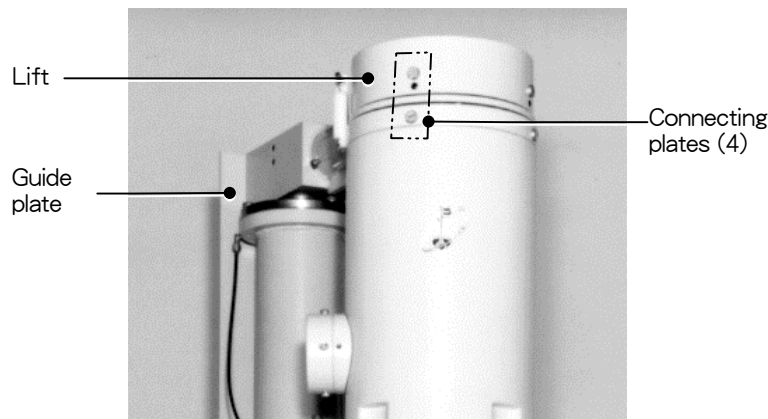

Fig. 6.4 Connecting plates attached to the lift
3. If there are connecting plates attached to the lift, take them off (Fig. 6.4).